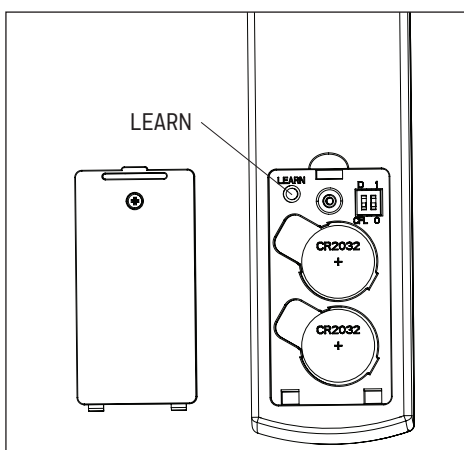

Figure 6.1
1. **LEARN** - Syncs remote to receiver (see TROUBLESHOOTING for instructions). **Note:** To access LEARN button, remove battery door from back of the remote using a Phillips-head screwdriver (Figure 6.1).
Remote does not work.	<ol style="list-style-type: none"> <li>1. Power surge may have cleared the memory and remote needs to be resynced to the receiver. Syncing instructions: Turn off the power at the breaker box for at least 10 seconds and then turn the power back on. Within 30 seconds, press and hold the "LEARN" button (Figure 6.1) on the back of the remote for 5 seconds. The fan will turn on at high speed and light will blink twice and stay on, signaling a successful synchronization.</li> <li>2. Insert new CR2032 batteries in battery compartment of the wall control.</li> <li>3. If there are several remote fans in proximity, turn the power off to those fans and re-sync the fan.</li> </ol>